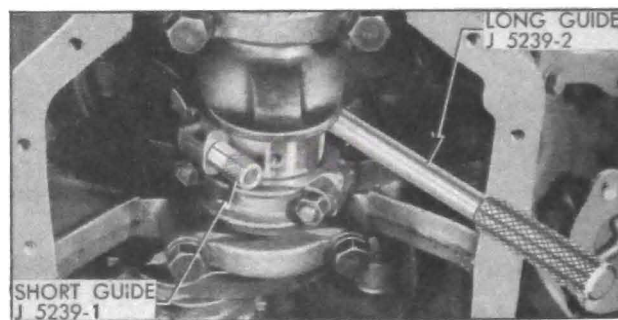

Figure 2-31—Connecting Rod Bolt Guides Installed
4. With No. 1 crankpin straight down, remove the cap with bearing shell from No. 1 connecting rod, then install the *short* Connecting Rod Bolt Guide J 5239-1 on the lower connecting rod bolt, and install the *long* Guide J 5239-2 on the opposite bolt, above crankpin. Turn guides down to hold the bearing upper shell in place. See figure 2-31.
9. Insert piston and rod assembly into its cylinder bore with the long guide pin placed above the crankpin. Push the assembly down until the rod bearing seats on crankpin. See figure 2-31.